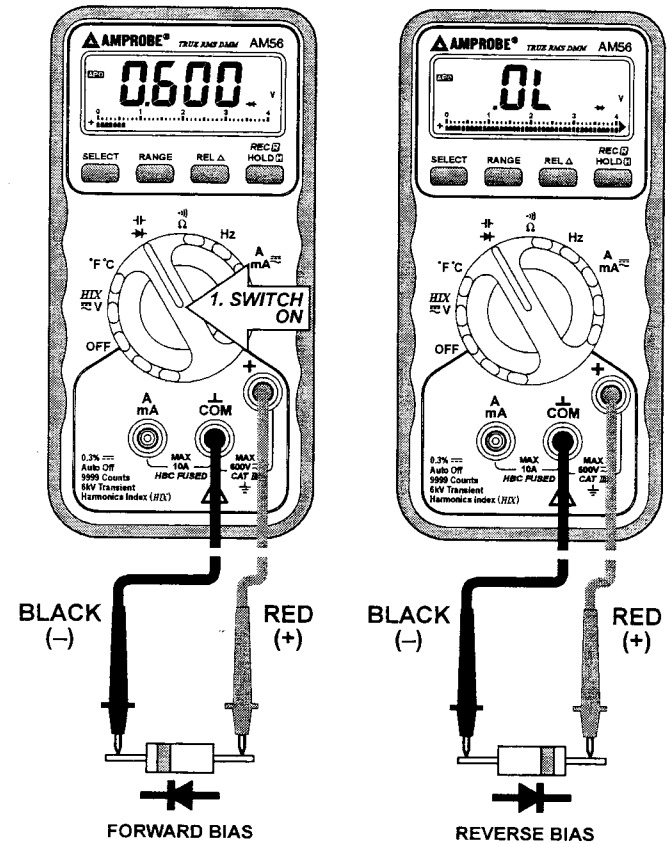

FIG 5. **➤ DIODE TEST FUNCTION**
- 3) Connect the test leads as shown in **FIG 5** and observe the digital display